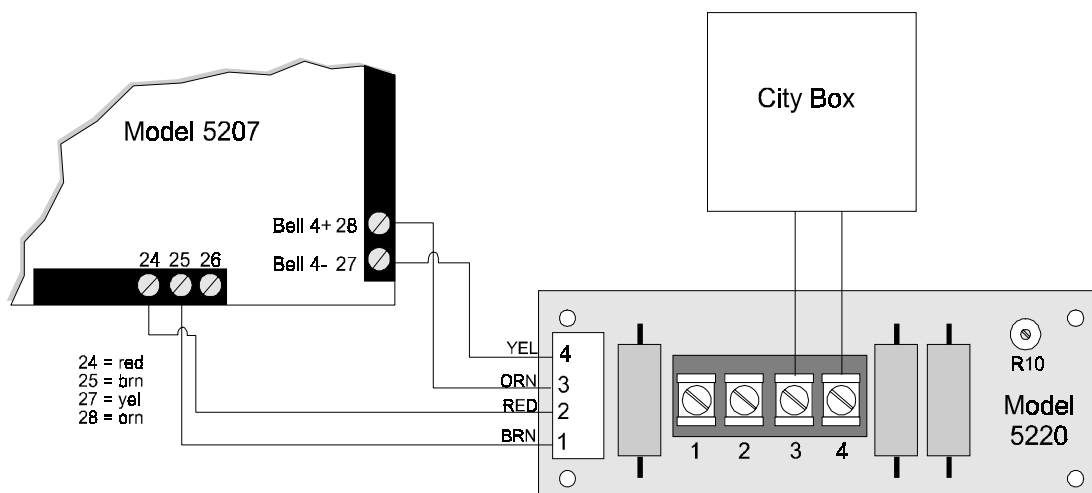

Figure 4-7 City Box Connection
2. Wire the 5220 to the 5207 as shown in Figure 4-7. This drawing also shows how to connect the city box coil to terminals 3 and 4 on the 5220.